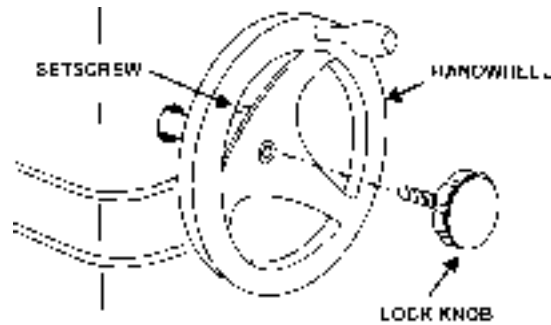

FIGURE 3
1. With a 7/32" allen wrench, check the factory tightness of the setscrews in the handwheels, Figure 3, making sure the setscrews are tightened in the middle of the flats on each shaft. The hand-wheel should be flush with the end of the shaft.
2. Find the two lock knob assemblies. Check that the setscrews in the knobs are tight using a 3/32" allen wrench. Screw one knob assembly, Figure 3, into the tilting mechanism hand-wheel and the other into the handwheel for raising and lowering the blade.